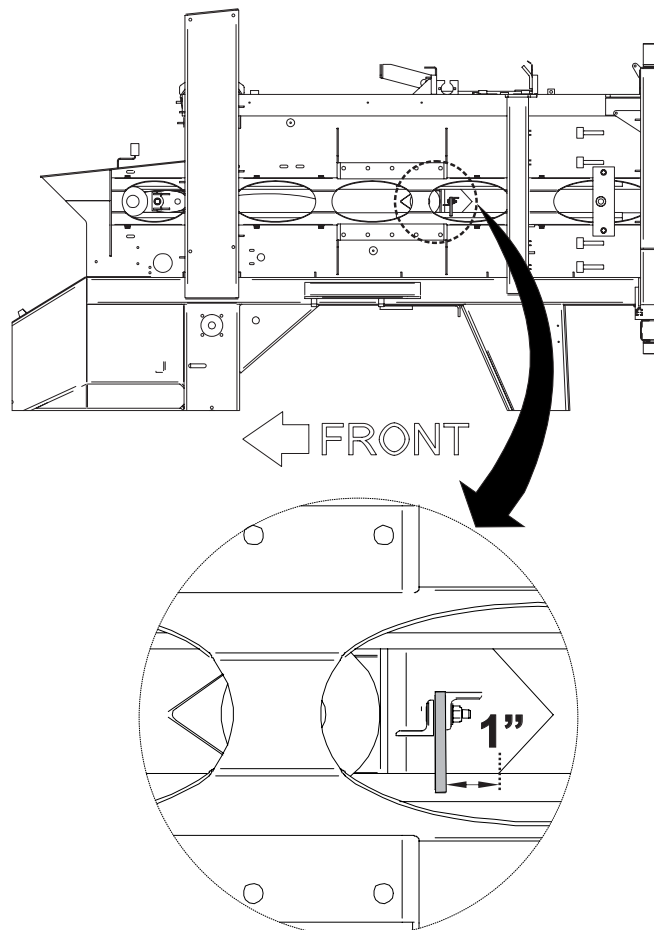

Figure 104 - Twine Needle Yoke in Home Position
5. Mark the location of the plunger fully retracted. Also mark 1 inch rearward of this position (see Figure 104).
to the 1" mark behind of full retract (see Figure 104) move the LS-10 switch correspondingly. The LS-10 switch may be moved approximately 1".